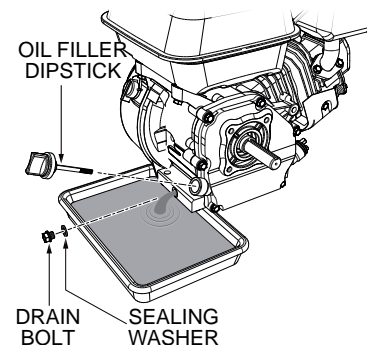

Figure 35. Draining Engine Oil
- Drain the engine oil when the oil is warm as shown in Figure 35.